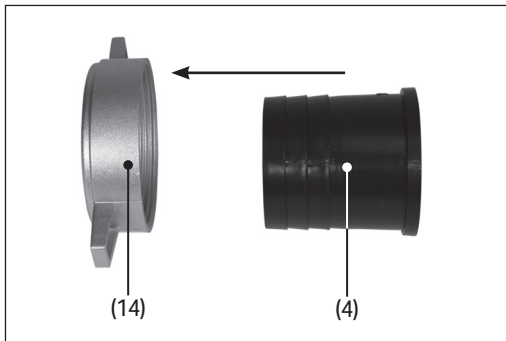

Fig. 1
1. Pass the hose barb (4) through the threaded side of the hose barb coupling (14) so that the thread sits away from the hose barb (Fig. 1).
2. Place an O-ring seal (G) inside the hose bar coupling so that it rests against the hose barb.